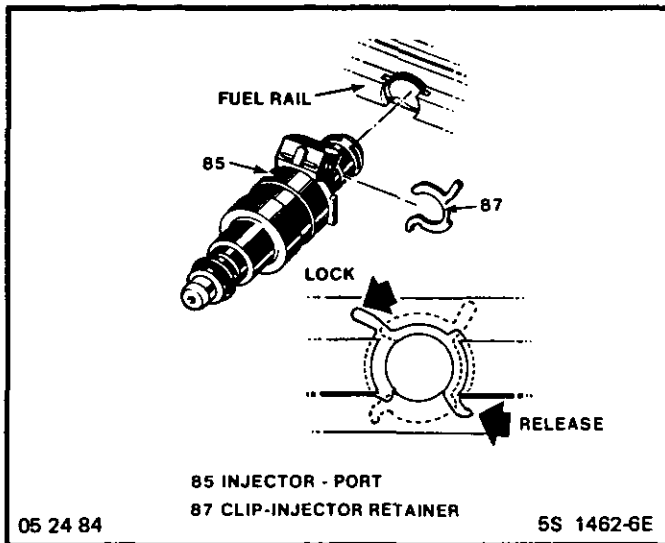

Figure C2-16 Port Injectors with Injector Retaining Clips
Each port injector is located and held in position by a retainer clip that must be rotated to release and/or lock the injector in place, as shown in Figure C2-16.
2. Injectors to fuel rail and pressure regulator assembly (11).
3. Rotate injector retainer clips (87) to locking position (figure C2-16).